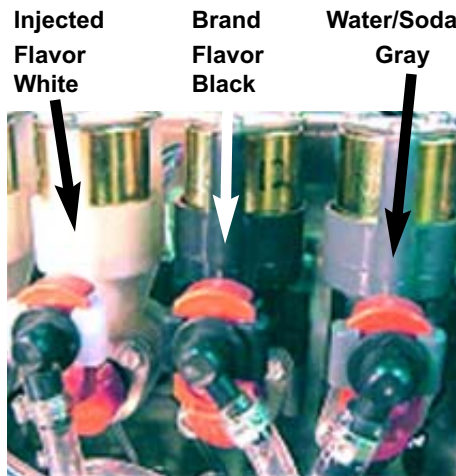

Figure 12
1.4 Beginning with Injected Flavor Modules (top row) of specific valve, close Mounting Block shut-offs, disconnect module coil wires and remove syrup outlet elbow after lifting Retainer Clip. Then pull up Valve Retainer and remove module from Mounting Block (see figures 12 through 15).